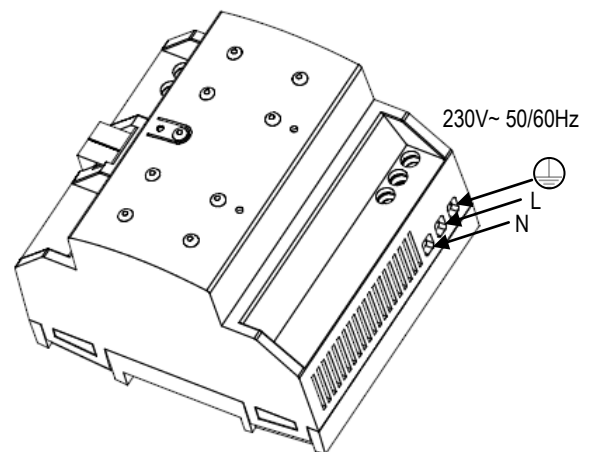

Figure 2: ZPS160MPA230 installation and connection
- Main power must be connected to L, N and ground terminals, in accordance with the schematic represented in figure 2.